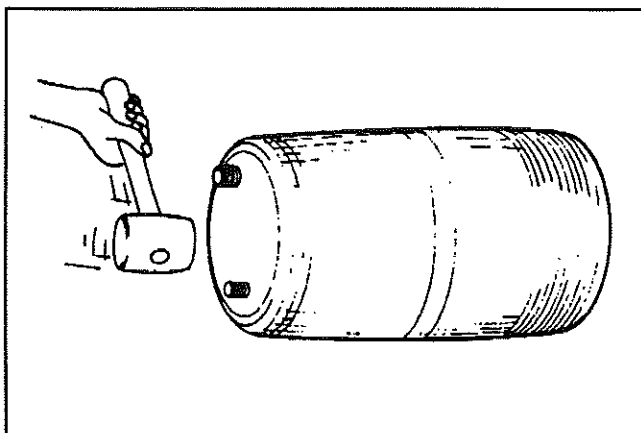

FIG. 9
3. Proceed with the removal of the upper retainer. Use a rubber hammer and tap on the upper retainer until it is loosened from the bellows bead (see fig. 9).